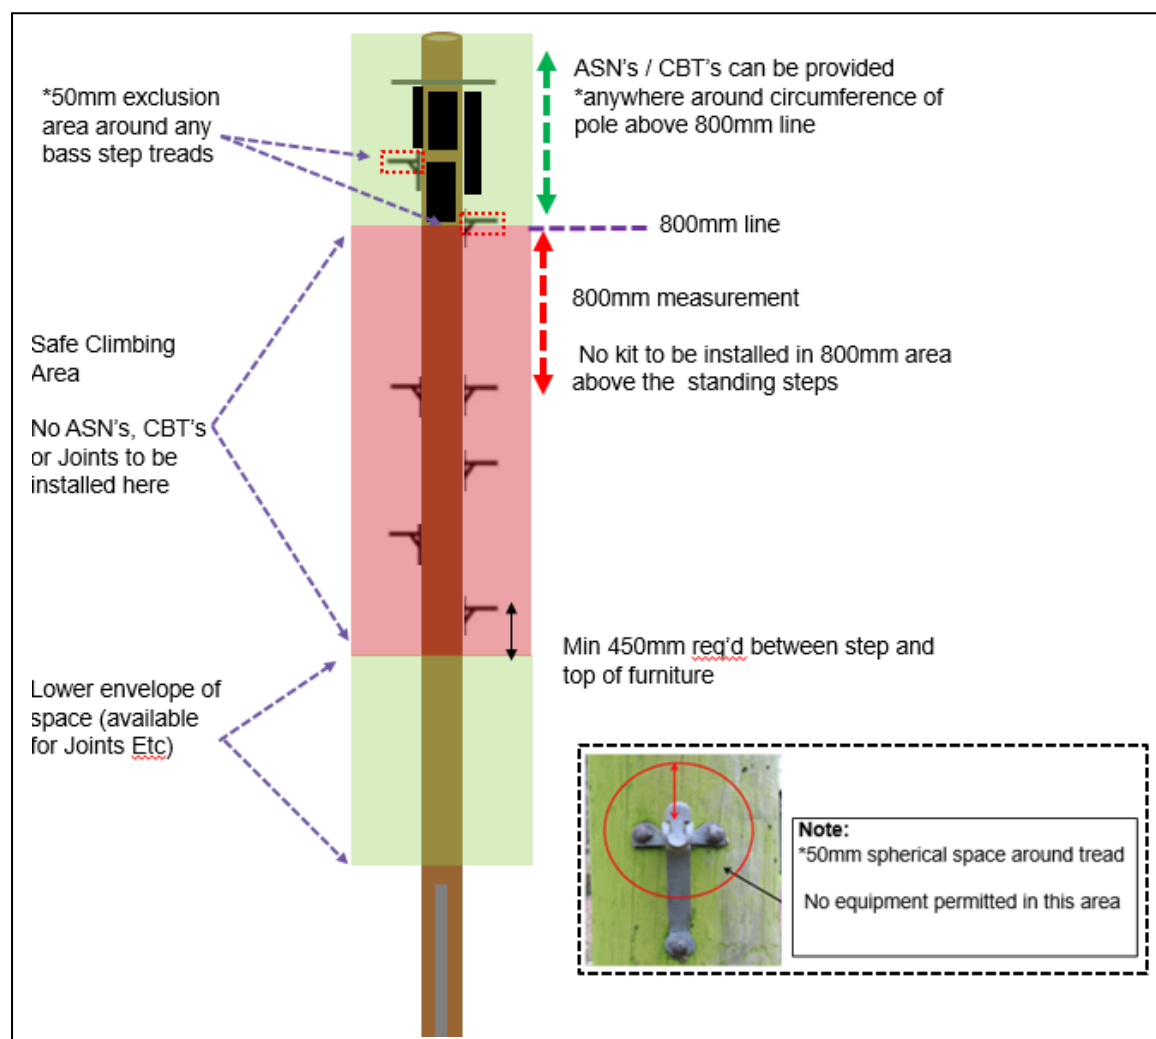
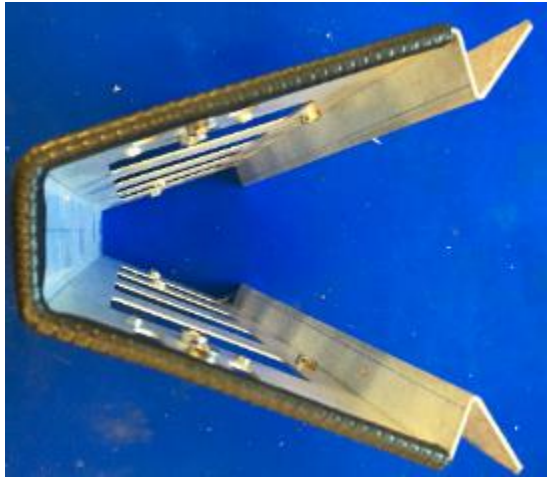

Figure 8 – Permitted envelopes of space on Poles
Figure 9: Example of Back to Back and triple Stand off Brackets
Where a CP's cable shares the same duct space or run together with Openreach cable, the capping requirement is mandatory. If the existing capping is not large enough to accommodate the extra CP cable, the CP may replace the capping with a larger, Openreach approved capping. Any cables running between the upper and lower envelopes of spaces shown in Figure 8 (i.e. through the climbing area) must be suitably managed and in a manner agreed in writing, in advance with the Openreach SA. This is to avoid risk to climbers.
- New apparatus, shall only be installed on the pole in the areas shown in Figure 8 below. NB Existing equipment installed prior to April 2020, which does not meet the requirements shown in Figure 8, may remain in situ, providing that in BT's reasonable opinion, it does not prevent a handhold of the Bass Steps (see 50mm rule in fig 8)
- Where the Lower envelope is being used (for Joints etc), a vertical clearance of 450mm must be provided between the Lowermost Climbing Step and the uppermost part of the equipment (Figure 8 refers)
- Where the CP feels they are unable to comply with the envelope of space requirements, they must submit an Order for a Network Adjustment (NA) to Openreach who will review / verify the validity of the NA and if accepted, decide on an appropriate solution to create the necessary space
- Before seeking a Network Adjustment for no space on the Pole, the CP must have used best endeavours to use all available space, including the provision / use of Back to Back space saver brackets and (where the CP has suitably trained / accredited people to do so) shifting of the Bass Step. Examples of a Back to Back brackets are shown at Figure 9 below and further information on these can be obtained from the (SA).
- Providing the permitted envelope of space (800mm) rule can be complied with, new equipment can be added above or below the Crown Ring. See Fig 8 (above) for details of the envelope of space / 800mm rule.